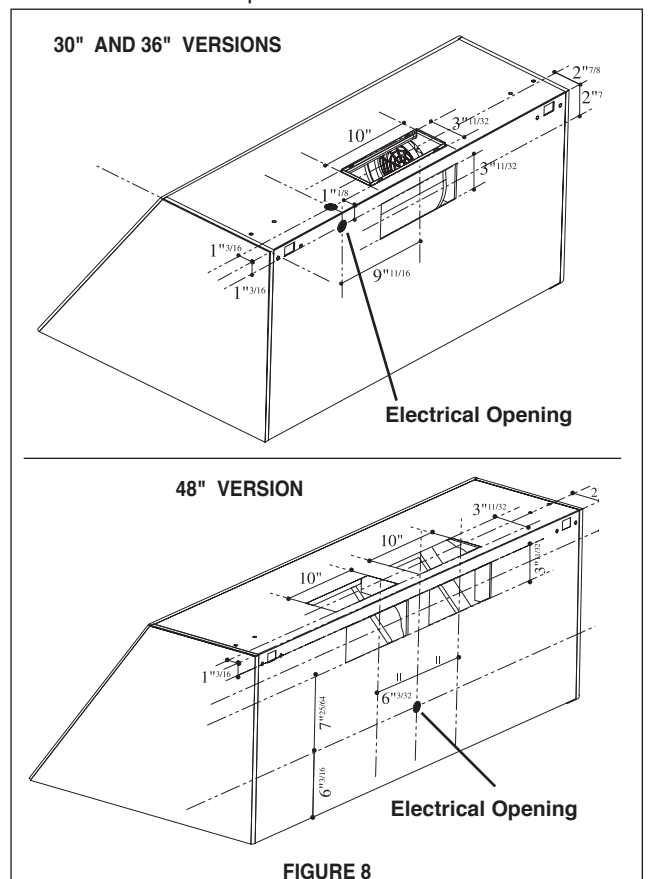

FIGURE 8
5. Determine and make all necessary cuts in the wall for the ductwork. The Pro Magnum vents either through the top or the rear of the rangehood. Each rangehood is shipped from the factory vented through the top. In order to vent to the rear, the blower inside the rangehood must be turned to the rear. The dimensions for the duct openings are given in **FIGURE 8**. The 48" model uses two 3 & 1/4" by 10" duct openings. Install all ductwork before installing the rangehood.
6. Determine the proper location for the Power Supply Cable as indicated in **FIGURE 8**. Note that the 30"/36" versions have the option of top or rear electrical connection while the 48" version has only the rear option. Use a 1 & 1/4" Drill Bit to make this hole. Run the Power Supply Cable. Use caulking to seal around the hole. **DO NOT** turn on the power until installation is complete.